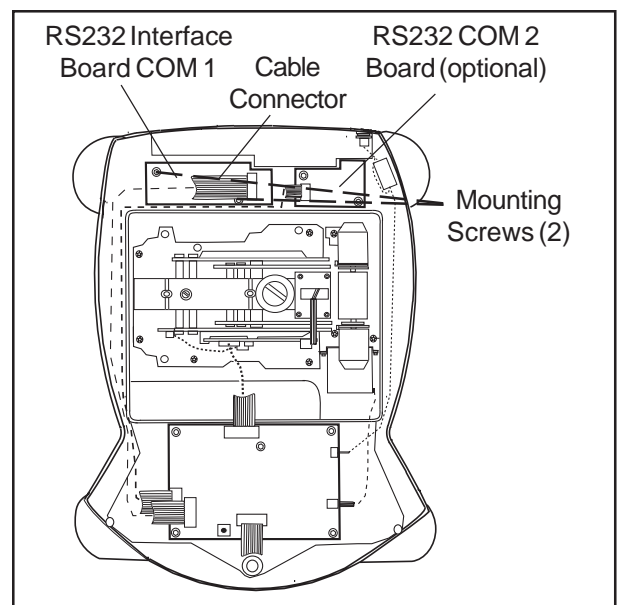

Figure 3-11. Removing RS232 PC Board.
2. Disconnect the cable from the RS232 Interface printed Circuit Board assembly. See Figure 3-11.